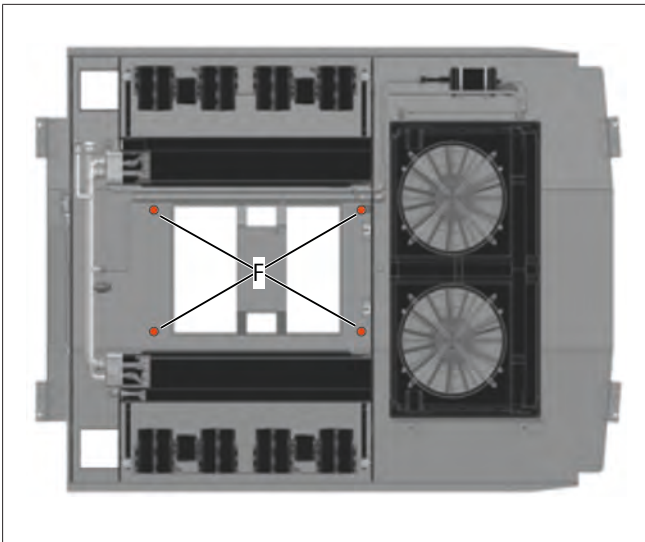

Fig. 9 A/C frame fastening
- Tighten the fasteners (see Fig. 9).